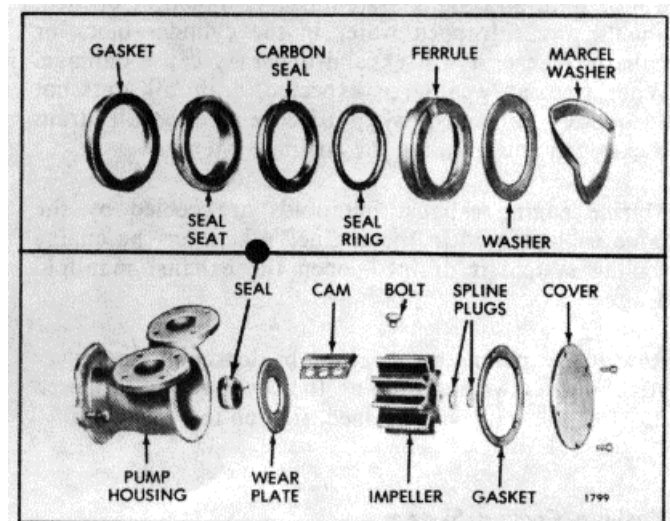

Fig. 17. - Raw Water Pump Details and Relative Location of Parts
The impeller (Fig. 17) is self-lubricated by the water pumped and should be primed before starting the engine.
1. Remove the cover screws and lift the cover and gasket from the housing (Fig. 17). Note the position of the impeller blades to facilitate reassembly.